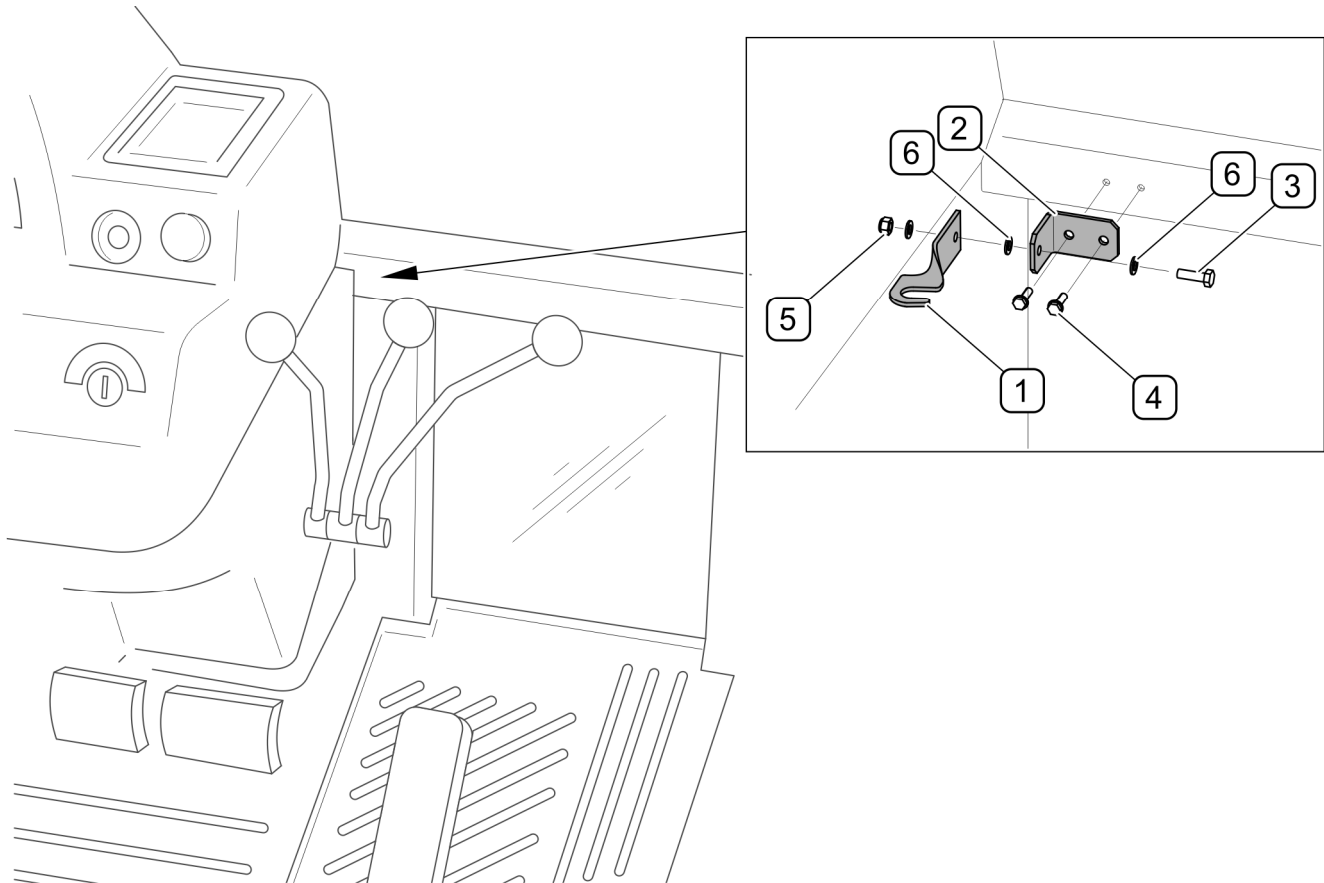

FIGURE 4.12 Installation of swinging clamp (Pronar 1025A / 1221A, Belarus
The loader control manifold should be connected to a corresponding section of the tractor's external hydraulic system with a lock (latch in the 'ON' position); if the system is not equipped with latch in the 'ON' position, a swinging clamp should be used (FIGURE 4.12).
In Pronar 1025A / 1221A and Belarus 1221.3 / 1523.3 tractors that do not have a hydraulic manifold with latch in 'ON' position, install 35N-30000000 swinging clamp on the horizontal beam on the right side of the console in the cab (FIGURE 4.12). To activate the loader's hydraulic supply circuit, move the proper lever of the tractor's external hydraulic system to ON position and catch with hook (1) of swinging clamp (FIGURE 4.12).